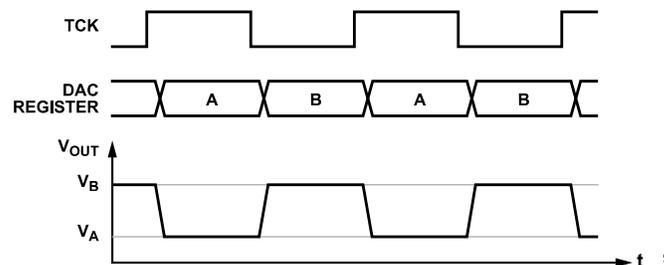

Figure 48. TCK Timing
When the TCK signal is high the DAC outputs a voltage ( $V_A$ ) corresponding to Input Register A, and when TCK is low, the DAC outputs a voltage ( $V_B$ ) corresponding to Input Register B (see Figure 48). The toggle function can be disabled by writing 0x0000 to the toggle/dither enable register (Command 11).
7. Apply the toggle clock signal to the TGP pin. The DAC output voltage changes on the rising and falling edges of the toggle clock signal as shown in Figure 48.